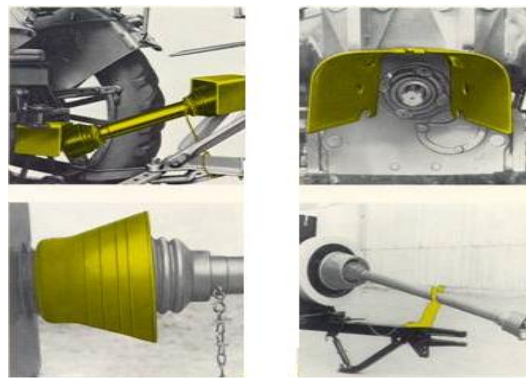

Figure 2- The Housing and chain of the jointed shaft protector
- Ensure that the protective tube of the shaft shall be attached in a way that incorporates the joints of the housing and it is safe against rotation (preferable using a chain). **(See Figure 2)**